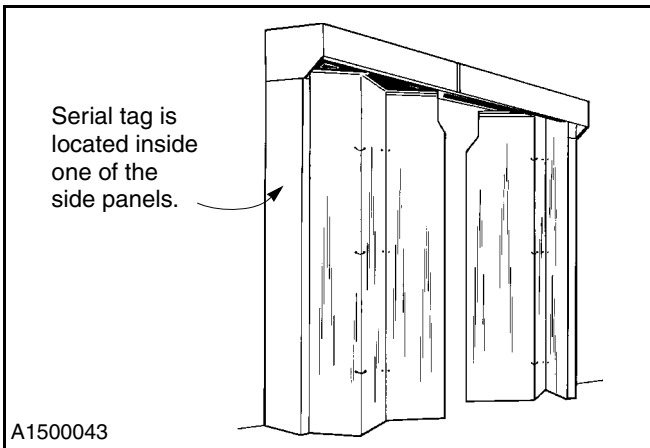

Figure 76
3. To ensure the correct parts are shipped, please include the serial number of your door with the order. The serial number is located inside one of the side panels. (See Figure 76.)